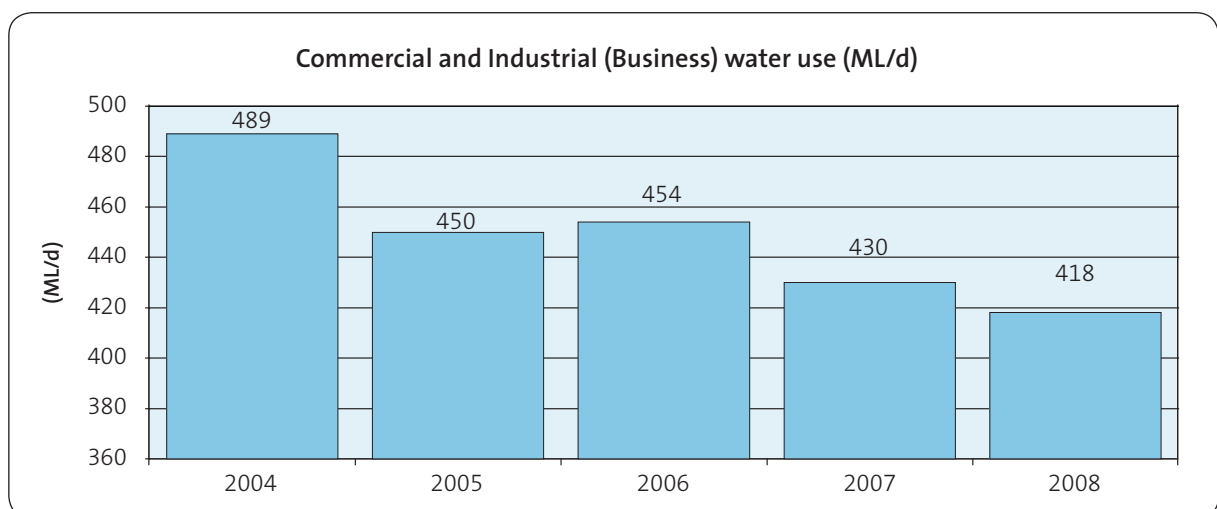

Figure 1 – How the business sector has saved water
- Figure 1** – How the business sector has saved water